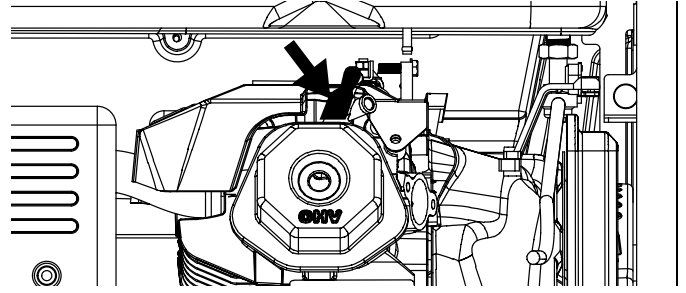

Figure 21 - Remove Spark Plug Boot
3. Remove the spark plug boot by firmly pulling the plastic spark plug boot handle directly away from the engine (see Figure 21).